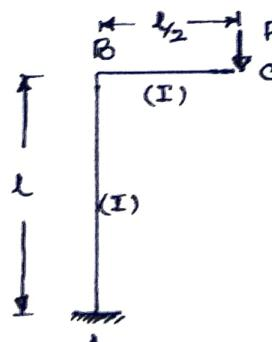

Fig.Q.6(a)
- 6 a. Determine the horizontal and vertical deflection at the free end of bracket shown in Fig.Q.6(a). (10 Marks)